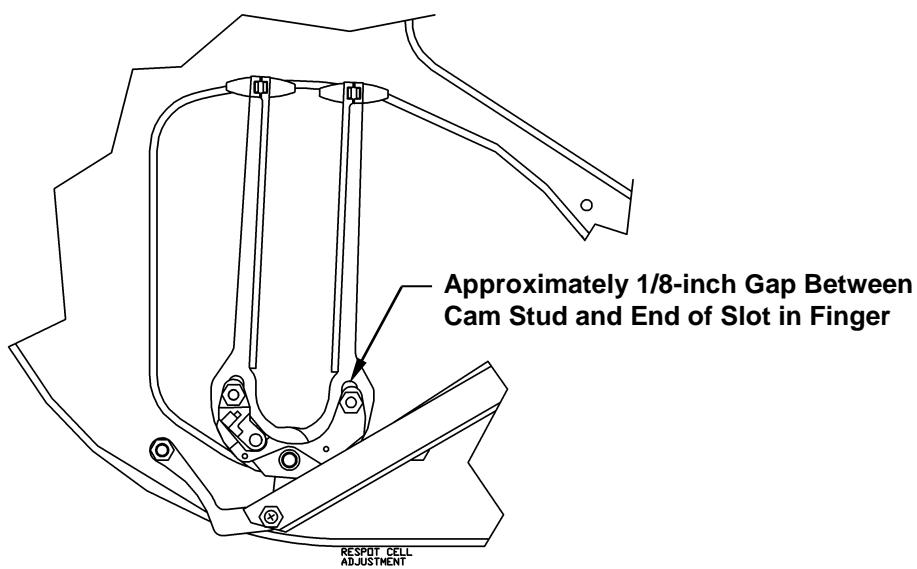

Figure 4.2-23
18. Rotate the front actuator lever to close the cells completely. Adjust the closed position actuator stop screw until it is against the actuator lever. Turn the screw an additional 2 turns. There should be approximately 1/8 inch between the cam studs and the end of the slot on each finger (see Figure 4.2-23). Turning the stop screw in increases the gap. Tighten the jam nut on the closed position stop screw.